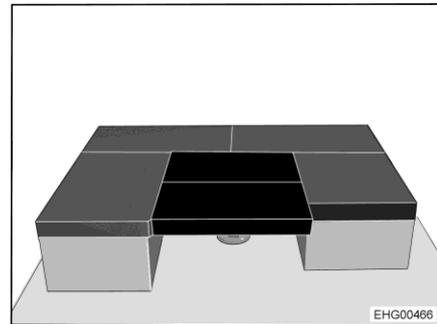

Fig. 105 After conversion
- Place 2 additional cushions transversely on the table (see Fig. 105).